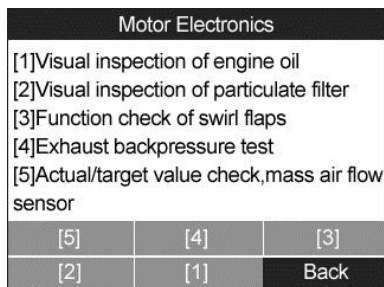

Figure 11.29
- a) From the particle filter test menu (Figure 11.29) use the **LEFT/RIGHT** scroll button to select **【1】** and press the **OK** button.
a) From the particle filter test menu (Figure 11.29) use the **LEFT/RIGHT** scroll button to select **【2】** and press the **OK** button.
- a) From the particle filter test menu (Figure 11.29) use the **LEFT/RIGHT** scroll button to select **【3】** and press the **OK** button.
- a) From the particle filter test menu (Figure 11.29) use the **LEFT/RIGHT** scroll button to select **[4]** and press the **OK** button.
- a) From the particle filter test menu (Figure 11.29) use the **LEFT/RIGHT** scroll button to select **【5】** and press the **OK** button.